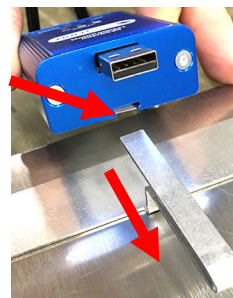

Figure 38
35. Slide the modem onto bracket as shown (see Figure 38).
36. Slide the modem onto the bracket, inserting into the slot, on the bottom of the modem. Ensure the modem is completely fitted on the tab as far as possible (see Figures 38 and 39).